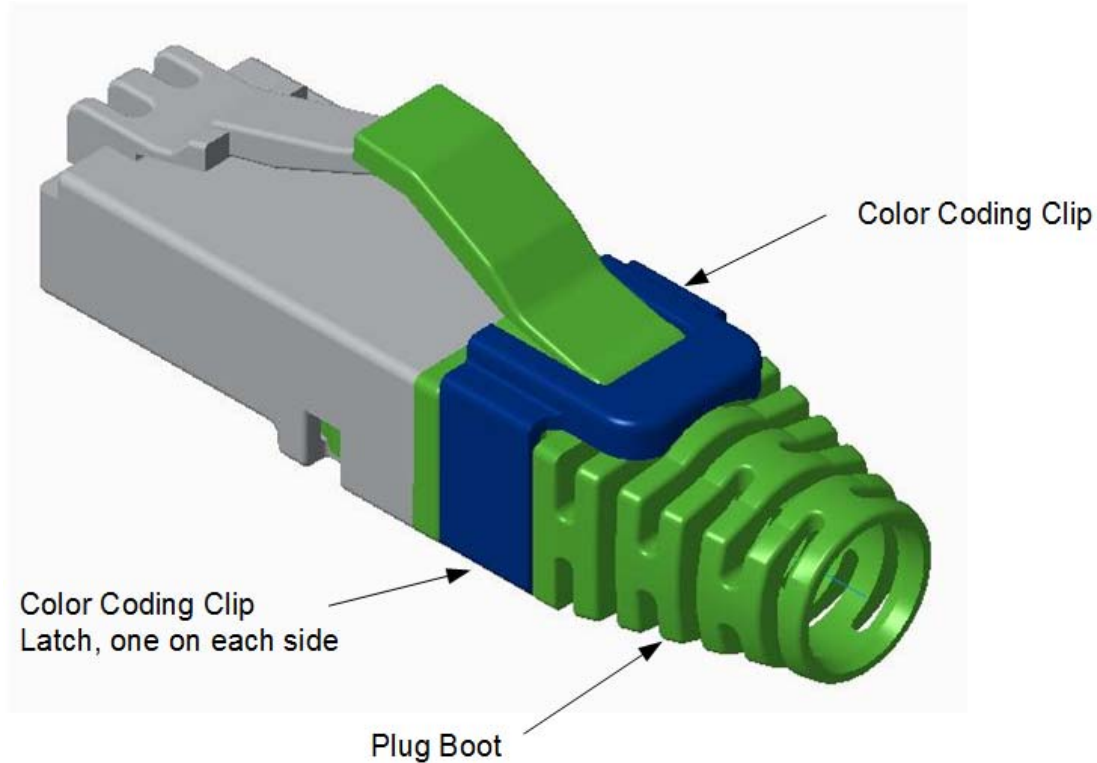

Figure 8: Modular Plug MP-6AU and MP-6AU-Boot with Color Coding Clip
Figure 8 shows typical applications of Modular Plug Connector with Color Coding Clip. The color coding clip simply snaps onto the plug boot in the field by the customer and is exchangeable, latch around the plug boot. The color clips is offered in bags of 50 and come in nine (9) different colors. After the color coding clip is latch onto the plug boot, make sure color clip latches are flush to plug boot surface on each side.